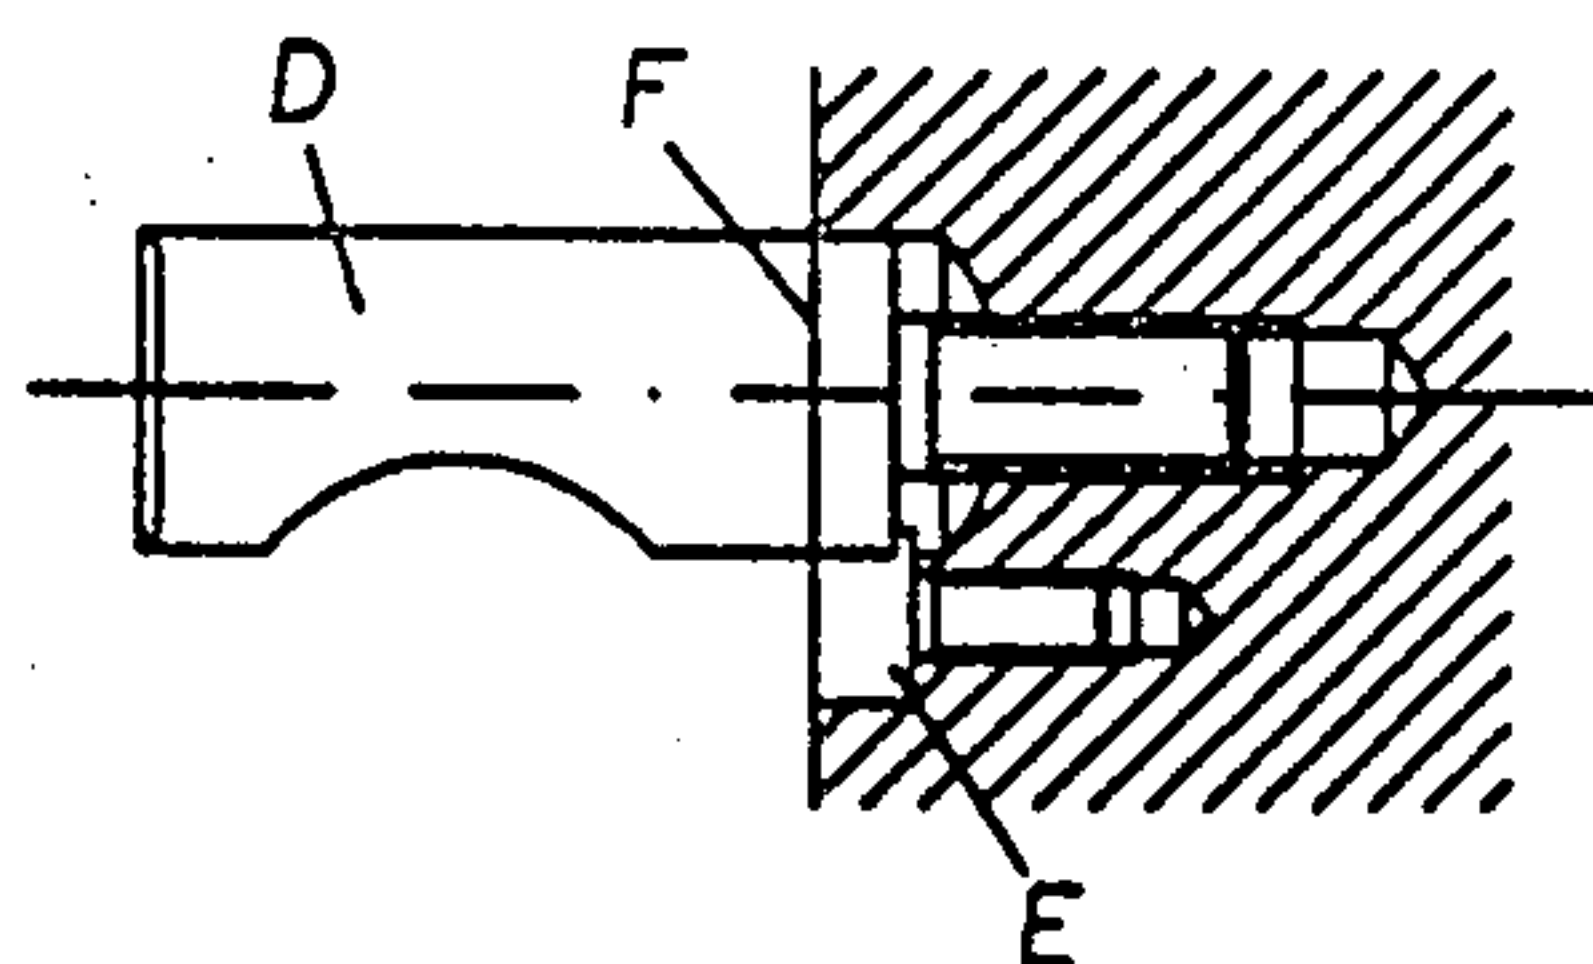

FIG. 2
Insert all the bolts in the plate chuck back, until the circular reference line (F) is in line with the wall of the chuck back (fig. 2) and the semicircular grooves are in line with the holes of the lock or eccentric spindles.